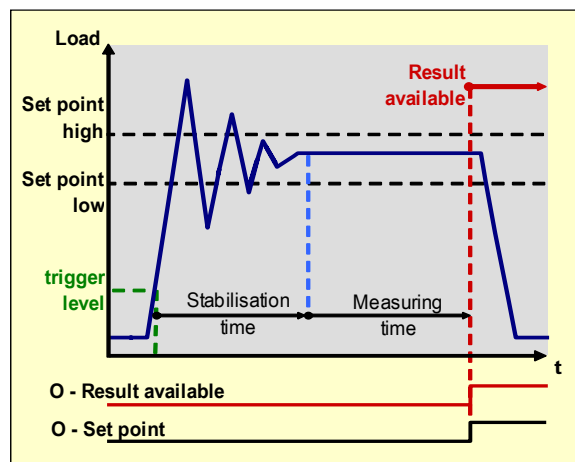

Fig. 9
- by a trigger level (Fig. 9) when the load cell signal reaches the specified value.